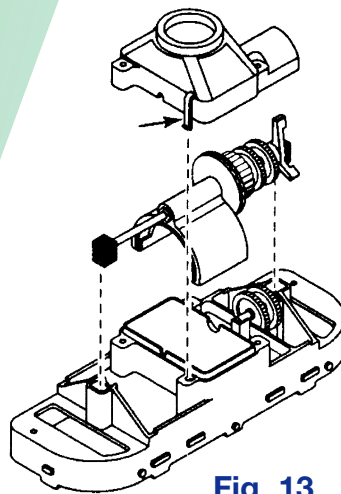
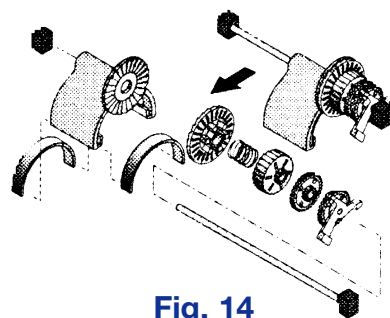

Fig. 13
Fig. 14
3. Turn head right side up. Unsnap the 2 clips on the gear cover (Figure 13); lift it off.
4. Pull the long gear shaft straight up (Figure 13) by the blocks on the ends of the shaft. Hold the seals in the oscillator and the blocks on the shaft. The cam may interfere with the shaft mounting post; if so, turn it slightly on the shaft until it clears the post. The shaft assembly can now be disassembled (Figure 14).
5. Slide the long gear shaft out of the oscillator (with gears, complete); make sure that you don't lose the seals out of the oscillator which may fall out at this point (Figure 14).